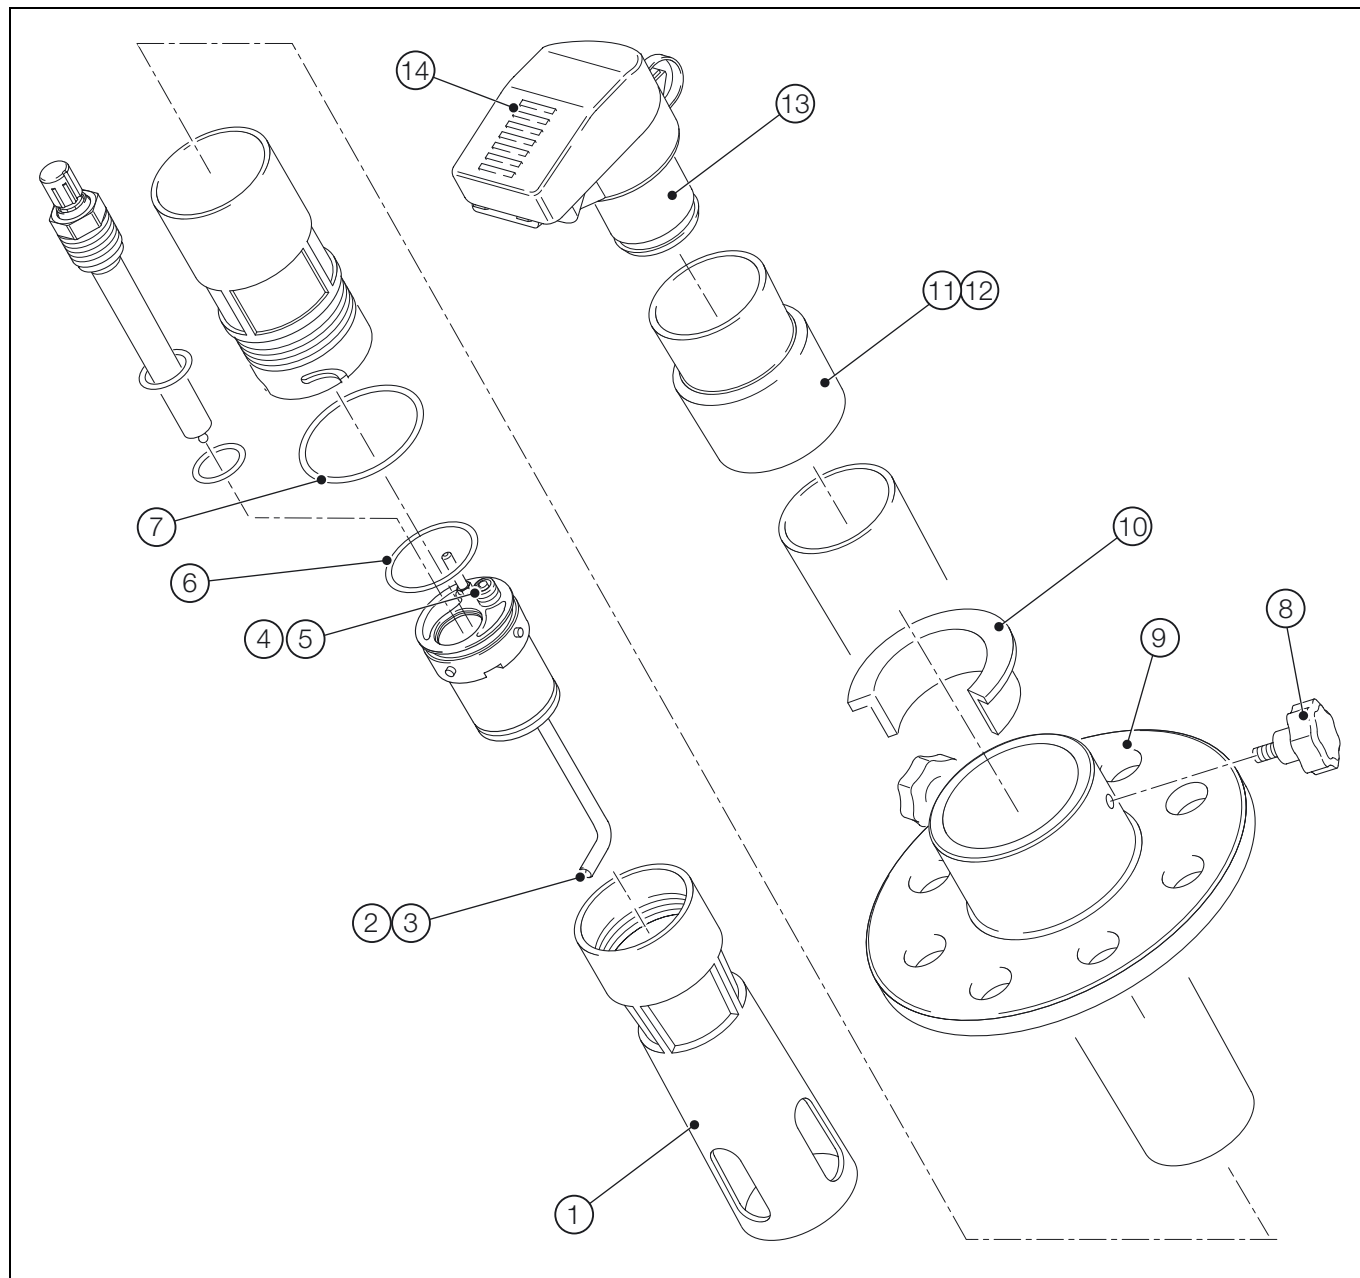

Fig. 7.3 Model AP203 Flanged Immersion (Dip) System Spares
7.3 Model AP203 Flanged Dip (Immersion) System – Fig. 7.3